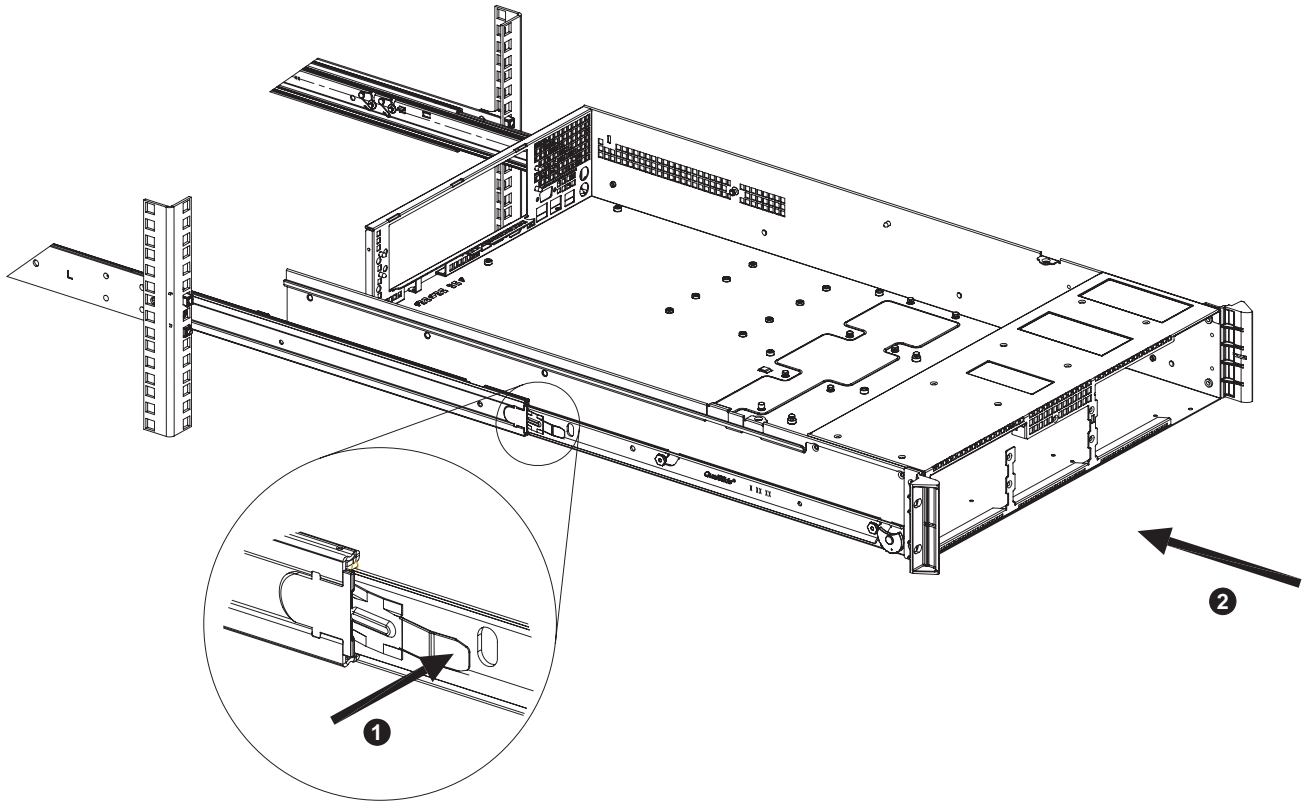

Figure 2-5 ISS3112-RP2 Server Chassis Rail Slide Release Tab Example
4. Push the release tab and push the chassis into the rack as shown in the example in Figure 2-5.